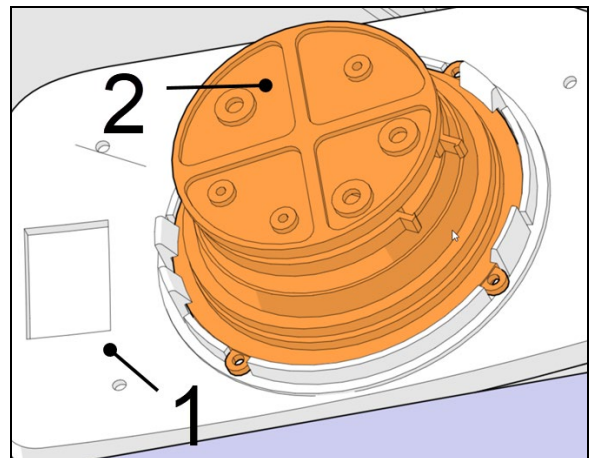

FIGURE 104: (1) CONVEX GLASS MIRROR; (2) MOTOR
1. Underneath the mirror, reach for the tab of the locking ring (item 2, Figure 104).